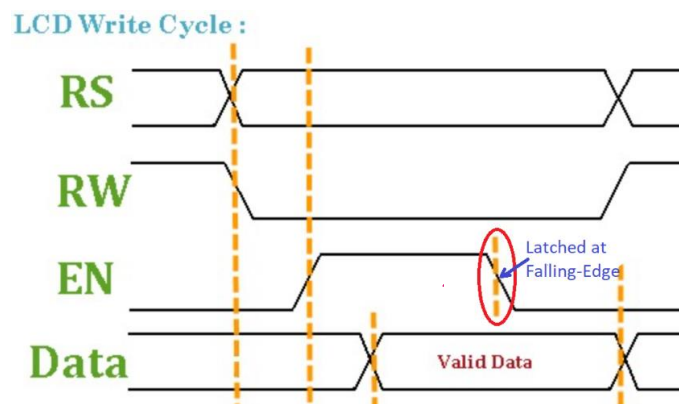

Figure 3. Timing diagram of the EN pin. Note how the falling edge of the EN pin is carried out **after** the other pins have been set to their desired values.
- The EN pin is latched at the falling edge (described below in Fig. 3), which means that it must go from high to low in order to send the information (both commands and data) to the LCD.